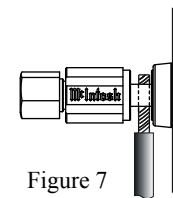

Figure 7
12. Connect the Loudspeaker hookup cables to the MC601 Negative Output Terminal and Positive Output Terminal identified as 2Ω (ohms), 4Ω (ohms) or 8Ω (ohms) connection to match the impedance of the Loudspeaker, being careful to observe the correct polarities. Insert the spade lug connector or prepared section of the cable end into the terminal side access hole, and tighten the terminal cap until the cable is firmly clamped into the terminals so the lugs or wire cannot slip out. Refer to figures 7 and 8.